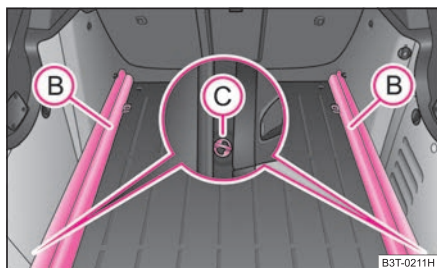

Fig. 81 Luggage compartment: Remove carrier rail
- Unlock the carrier rail **(B)** by turning the arbor-mounted fixing eyes **(C)** to the right by approx. 90° ⇒ fig. 81.